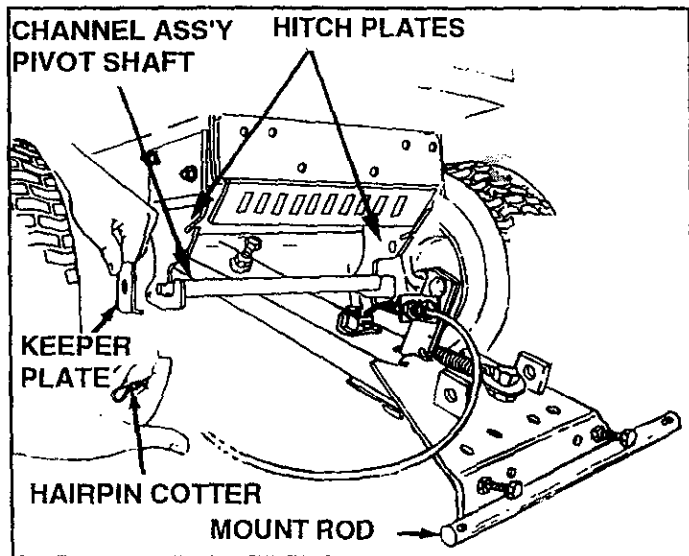

FIGURE 11
3. Assemble keeper plates over each end of pivot shaft with lip under hitch plates (see figure 11) and secure with two 1/8" (large) hairpin cotters through small holes near each end of shaft.
5. Hold blade head upright and guide one end of mount rod into hole near bottom of blade mount gusset. See figures 11 and 13. Secure with a hairpin cotter. Slide other end of mount rod into other blade mount gusset hole and secure with hairpin cotter.